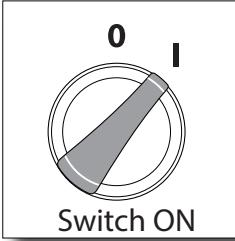
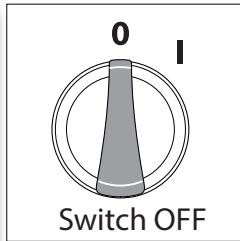

Fig. 11
Fig. 12
- Make sure the “ON/OFF” switch is in the “OFF” position. The power switch has international symbols for ‘on’ and ‘off’: On (|) (Fig. 11) Off (O) (Fig. 12).